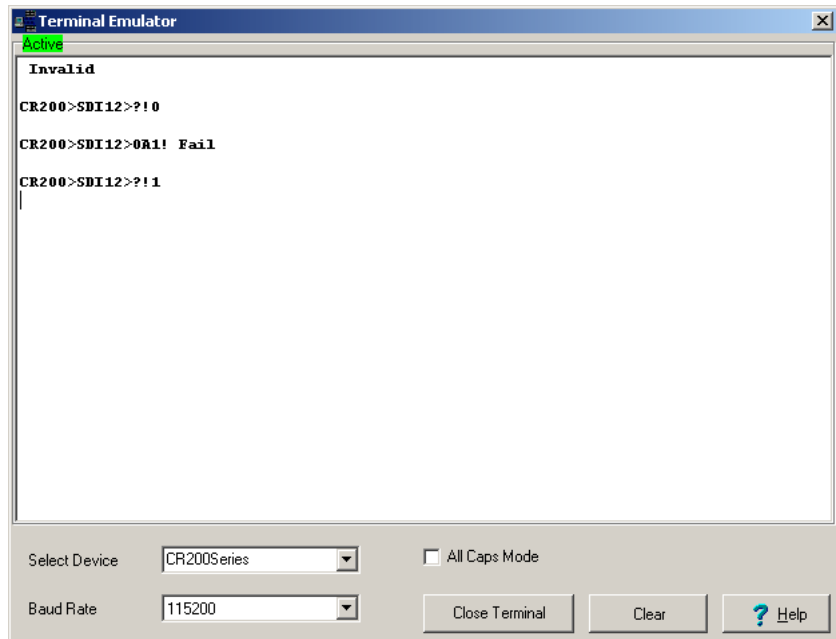

FIGURE 8-1. SDI-12 Transparent Mode for a CR200(X) used to change the SDI-12 address from 0 to 1
- Press the **Enter** key until the datalogger responds with the “CR200(X)>” prompt (FIGURE 8-1).